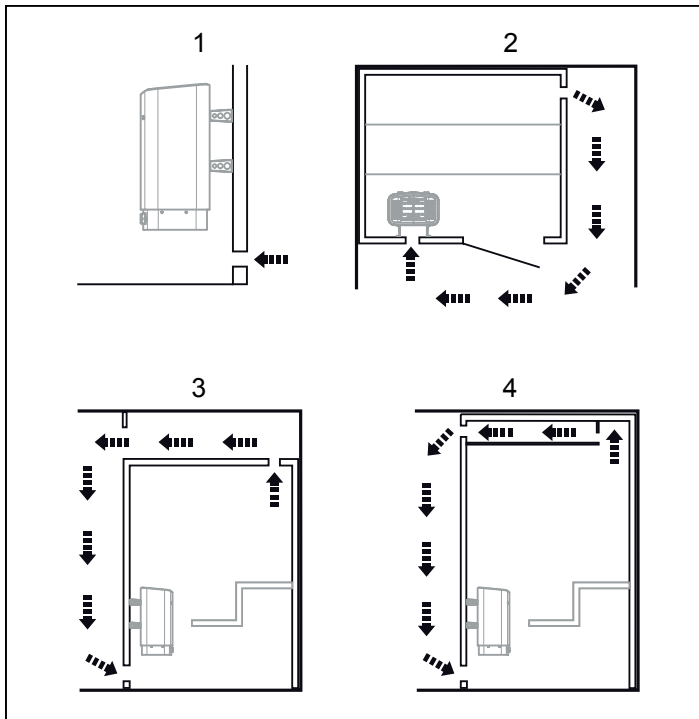

Figure 3: Positioning the inlet and outlet vents
In a sauna, the air should be changed about 6 times an hour. See Figure 3.
- at the maximum possible distance from the inlet vent, e.g. diagonally (see Figure 3, Page 2)
- high on the wall or in the ceiling (see Figure 3, Page 2).